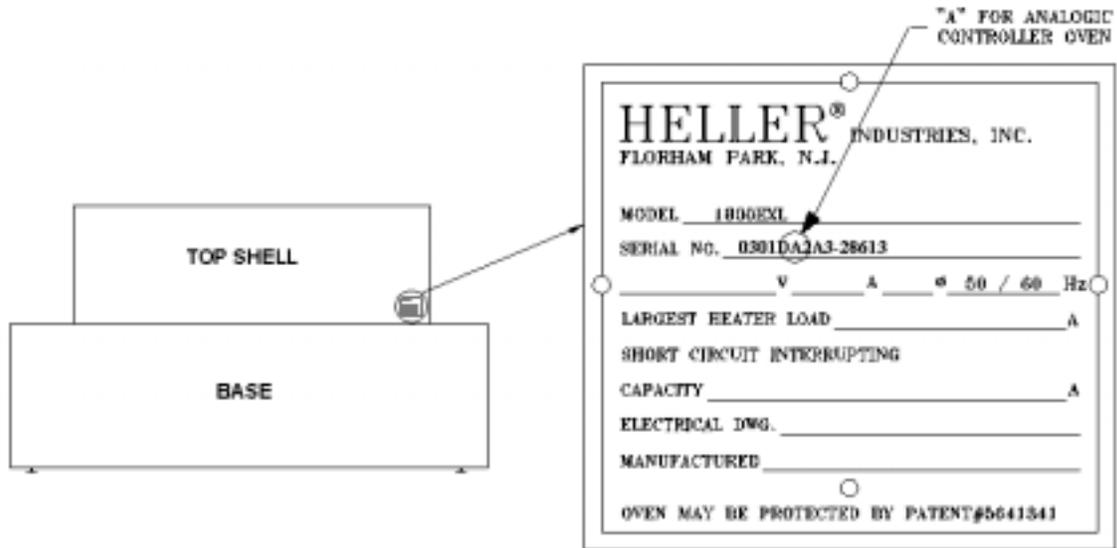

Figure 1
1. To check if the machine is equipped with an analogic controller, locate the serial tag located at the rear of the top shell. "Serial no." on the serial tag indicates the oven is analogic if serial no. has "A" as the 7th character. **See Figure 1.**